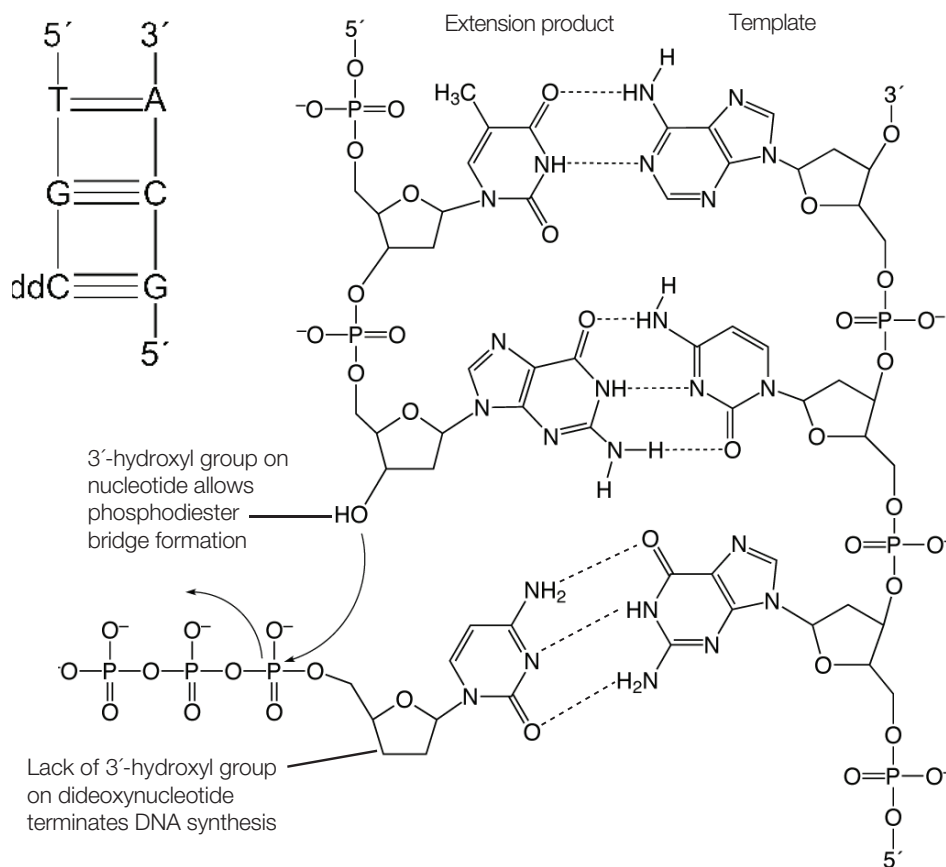

Figure 2. DNA strand synthesis and termination.
The extension product grows in the 5' to 3' direction by forming a phosphodiester bridge between the 3'-hydroxyl group at the growing end of the primer and the 5'-phosphate group of the incoming deoxynucleotide [1] (Figure 2).
The DNA sequence is copied with high fidelity because at each base on the DNA template, DNA polymerase incorporates the nucleotide that is complementary to that base. Thymine (T) is complementary to adenine (A) and guanine (G) is complementary to cytosine (C) because they can form hydrogen bonds with each other (Figure 2).
terminates (Figure 2). Sanger dideoxy sequencing results in the formation of extension products of various lengths terminated with dideoxynucleotides at the 3' end.